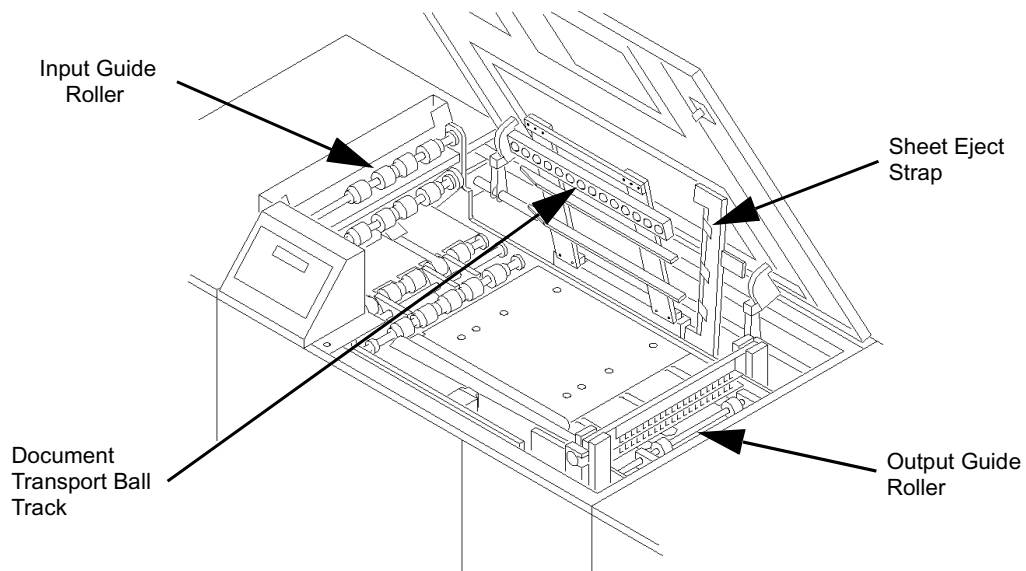

Figure 4-2: The Internal Paper Path Components
- 3 Open (lift) the Input Guide Roller assembly, as shown in Figure 4-2. Clean the rollers with Isopropyl alcohol and a clean lint-free cloth. Check also for accumulations of paper dust or toner on the base plate.
- 4 Open (lift) the Document Transport Ball Track assembly, as shown in Figure 4-2. Clean the green belt under the ball track, both Sensor Reflectors and both Sensors (under the holes in the base plate) with Isopropyl alcohol and a clean lint-free cloth. Check also for accumulations of paper dust or toner on the base plate.